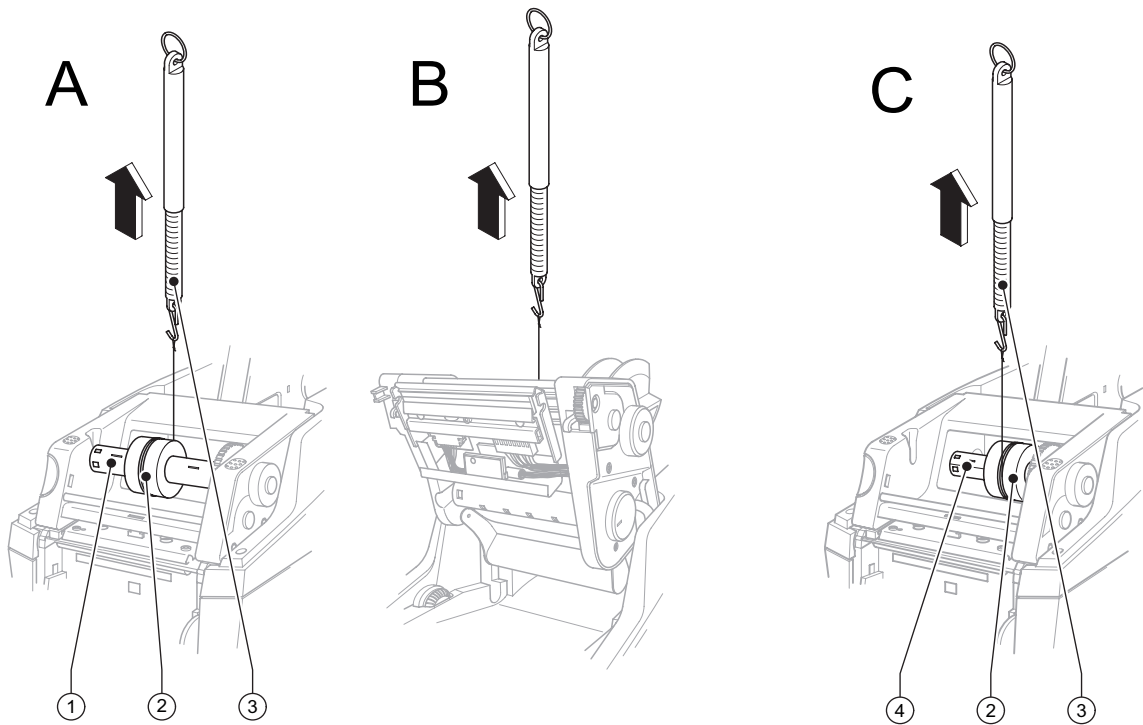

Fig. 8: Measuring the winding torques on the rewind hub and ribbon supply hub
1. Wind the cord several times round the test collar (see fig. 8 A) and mount it on the tape holder on the rewind hub (1). The spring lugs of the tape holder must slot into the smaller slot in the test collar.
2. Attach a spring scale [10 N] (3) to the end of the cord, raise it vertically until the test collar starts to turn.
5. Disconnect the rewind hub (1) from the drive in order to measure the winding torque for the brake. Press the release button, hinge up the printhead assembly, repeat the measuring procedure (see Fig. 8 B.)
1. Wind the cord several times round the test collar (see fig. 8 C) and mount it on the tape holder on the supply hub (4). The spring lugs of the tape holder must slot into the smaller slot in the test collar.